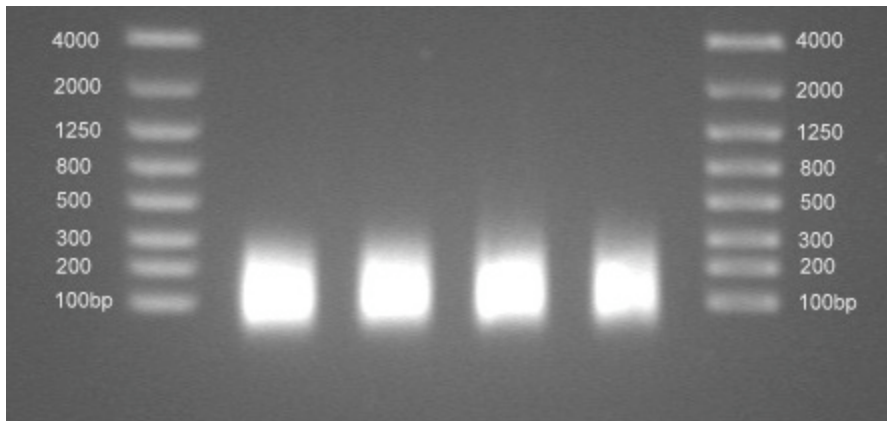

Fig. 1 Post-Covaris DNA size distribution on 1.2% Flash Gel. Marker lane, FlashGel DNA marker (100bp-4kb, Cat. No. 50473, Lonza).
6. Check the fragment size using a 1.2 % Flash Gel DNA Cassette (Lonza, Cat. No. 57023). The average size should be approximately 125 bp for SOLiD v4 (see Fig. 1 for example gel picture).